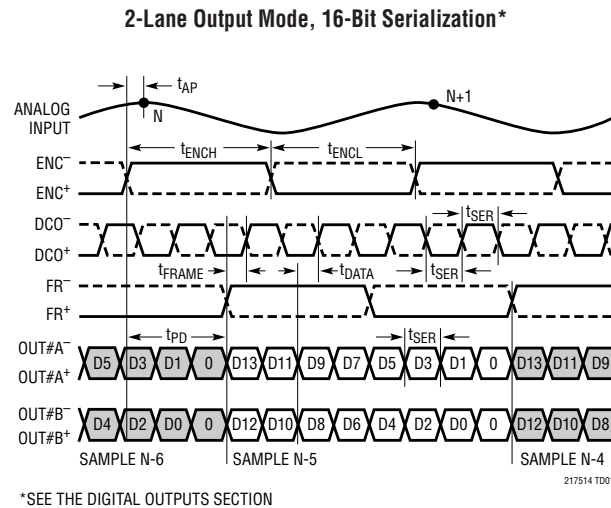

Figure 4.2: LTC2174 data output mode waveforms.
The LTC2174 is by default configured as *2-Lane Output Mode, 16-Bit Serialization*. In the `fmc-adc` application, the default configuration is kept. The figure Figure 4.2 is an extract from the LTC2174 datasheet illustrating the *2-Lane Output Mode, 16-Bit Serialization* waveforms.
There is two 800Mb/s lanes per ADC channel. The eight data lanes and the frame rate (FR) lane are fed to a de-serialiser in the FPGA. The frame rate signal is used to align the de-serialiser to data words. The four channel data (16-bit) are concatenated together to form a 64-bit vector. As show in Figure 4.2, the two LSB bits of a data word are set to zero.